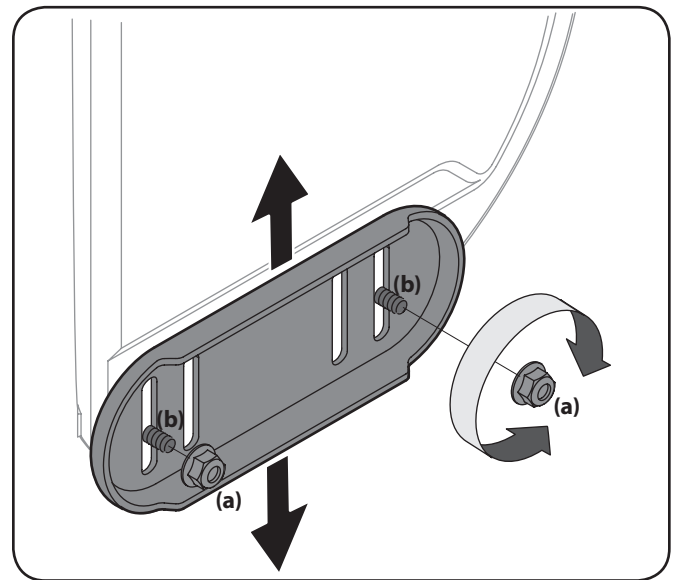

Figure 3-13
1. Loosen the four hex nuts (a) (two on each side) and carriage bolts (b). Move skid shoes to desired position. See Figure 3-13.